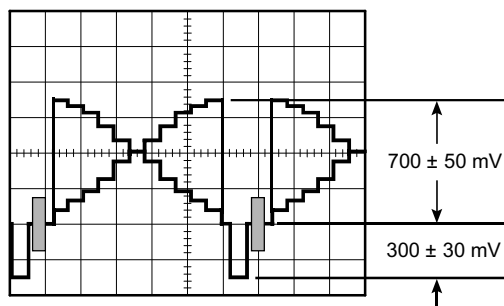

Fig. 4-13
- Adjust data with the **ARROW** keys so that the Video Output signal level becomes 700 ± 50 mV as shown in Fig. 4-13.